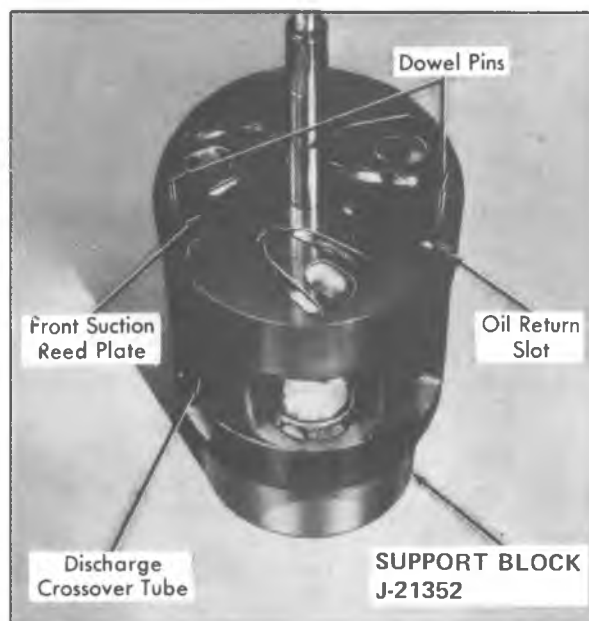

Fig. 58--Installing Front Suction Reed
4. Install front suction reed plate on front cylinder half. Align with dowel pins, suction ports, oil return slot, and discharge cross-over tube (Fig. 58).